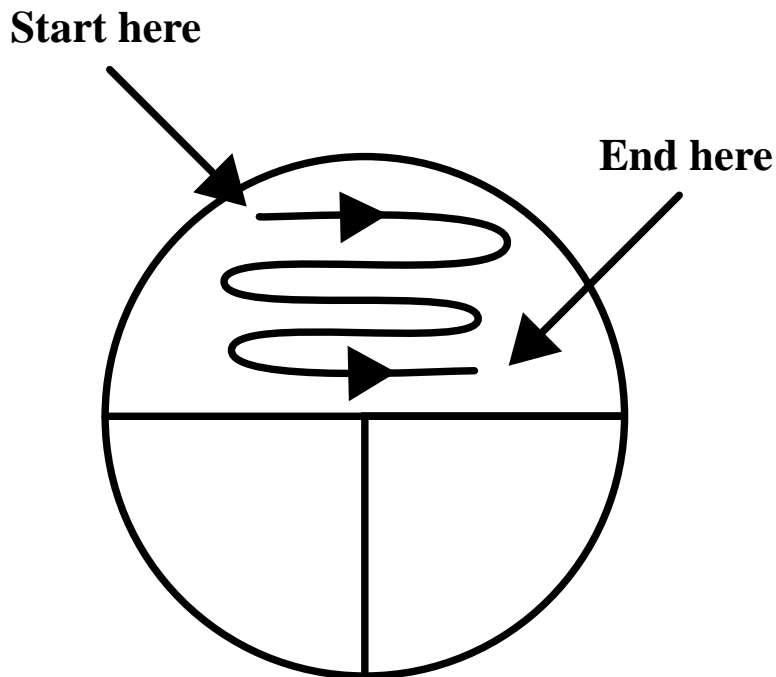

Figure 5.4: Touch the inoculating loop to the upper left hand corner and then move it across the agar from left to right as shown.
6. Set the plate you will be streaking so that its bottom is sitting on the bench top and you can see the T clearly. The largest section should be at the top. Carefully lift up the lid and touch the inoculating loop to the upper left hand corner of the largest section of the plate. Move the loop from left to right, back and forth, across the surface of the agar. See Figure 5.4. Since nutrient agar is a gel with properties similar to jello, do not push down with the loop or you will gouge the agar.